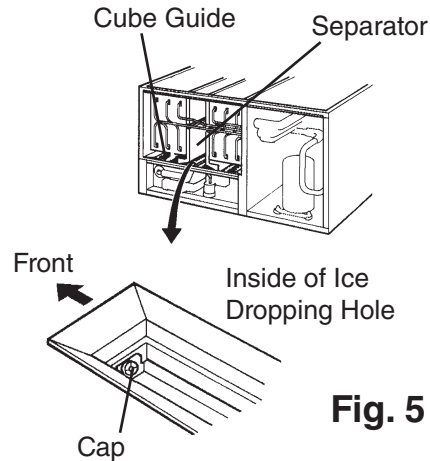

Fig. 5
5) Remove the cap located on the front bottom part of the ice dropping hole. Drain the water tank. See Fig. 5.